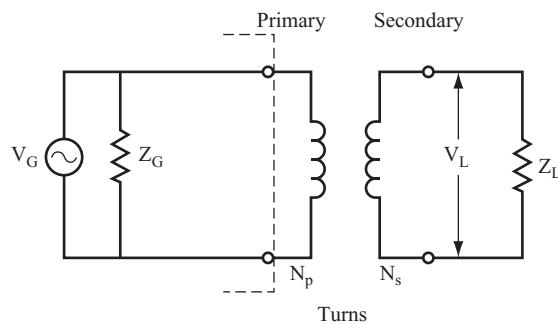

FIGURE 10.11
- 16** Figure 10.11 shows a signal generator with an output impedance of Z_G connected to the primary coil of a transformer. A load impedance of Z_L is connected to the secondary coil.